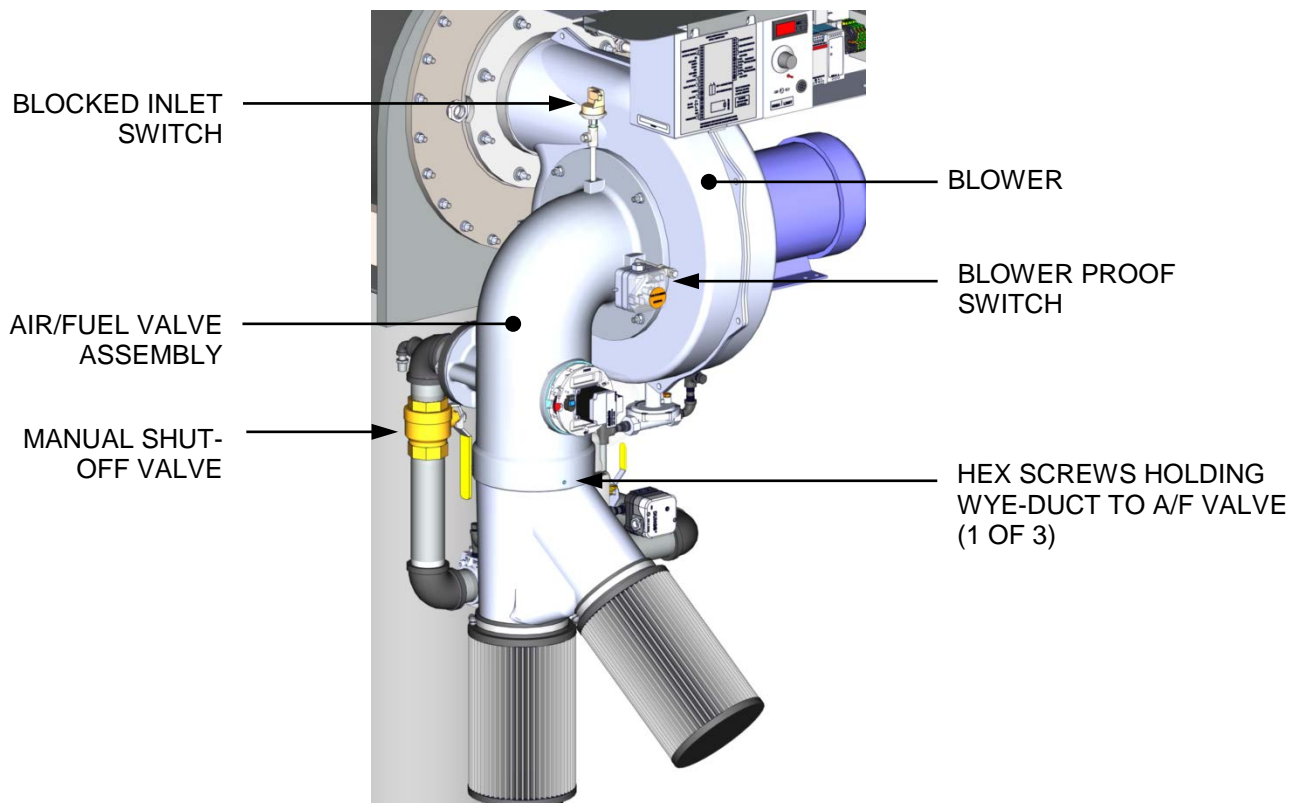

Figure 6-4: Blower Proof Switch & Blocked Inlet Switch Locations
These tests check the operation of the Blower Proof switch and Blocked Inlet switches shown in Figure 6-4.
2. Remove the three (3) hex head screws securing the WYE-Duct and air filters to the Air/Fuel valve (see Figure 6-4, above) and carefully remove the WYE-Duct and air filter assembly.